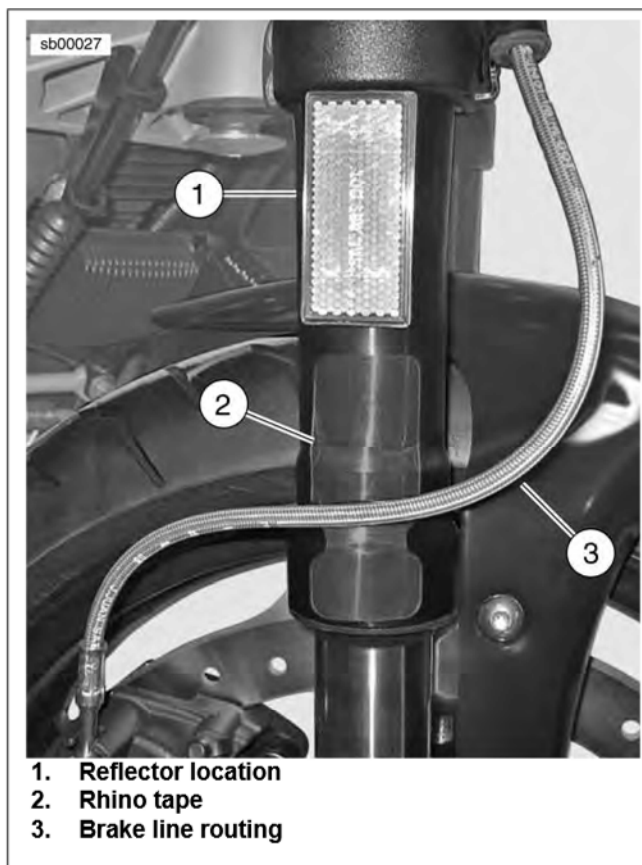

Figure 1. Reflector/Rhino Tape Location (typical)
- XB12R:** See Figure 1. Remove the reflectors on the outer fork tubes and install **new** reflectors provided in the kit pressed up against the lower triple clamp.
- XB12R/1125R:** See Figure 1. Fit the rhino tape against the lower edge of the outer fork tube and press into place.
1. See Figure 1. Remove the reflectors on the outer fork tubes and install **new** reflectors (1) pressed up against the lower triple clamp.
2. Fit the rhino tape (2) against the lower edge of the outer fork tube and press into place.
1. **XB12R/XB12Scg:** See Figure 1. Remove the reflectors on the outer fork tubes and install **new** reflectors (1) pressed up against the lower triple clamp.